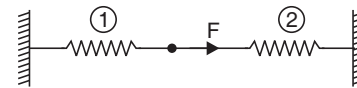

FIGURE 8.39
44. Two identical springs labelled as 1 and 2 are arranged in series and subjected to force F as shown in Fig. 8.39.